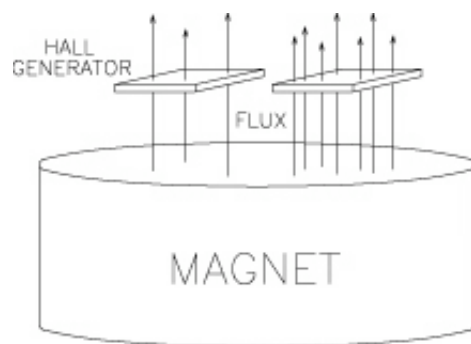

Figure 3-24
6) Flux density can vary considerably across the pole face of a permanent magnet. This can be caused by internal physical flaws such as hairline cracks or bubbles, or an inconsistent mix of materials. Generally the sensitive area of a Hall generator is much smaller than the surface area of the magnet, so the flux density variations are very apparent. Figure 3-24 illustrates this situation.